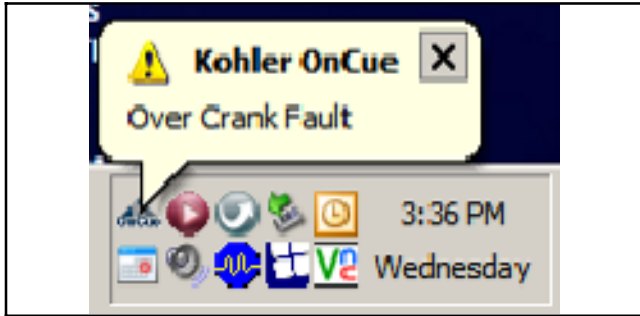

Figure 3-4 Fault Message
When the user interface (UI) is closed, OnCue™ continues to monitor the generator set. If a fault condition occurs when the UI is closed, a balloon tip message will describe the fault. See Figure 3-4.